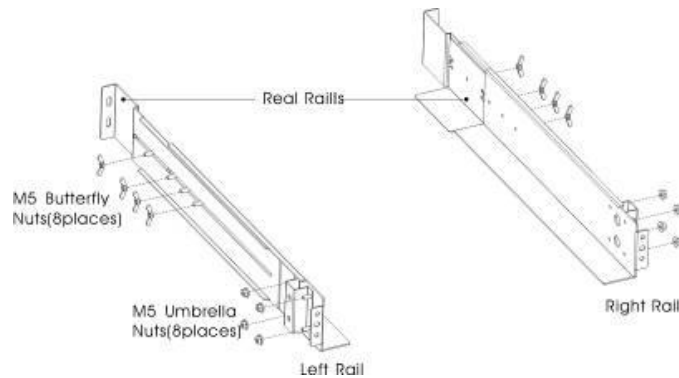

Figure 1 - Securing the Rails
(1) To install the rail kit
- a) Assemble the left and right rails to the rear rails as shown in Figure 1. Do not tighten the screws. Adjust each rail size for the depth of your rack.
- c) Tighten four M5 Umbrella Nuts in the side of rail assembly (see Figure 1).